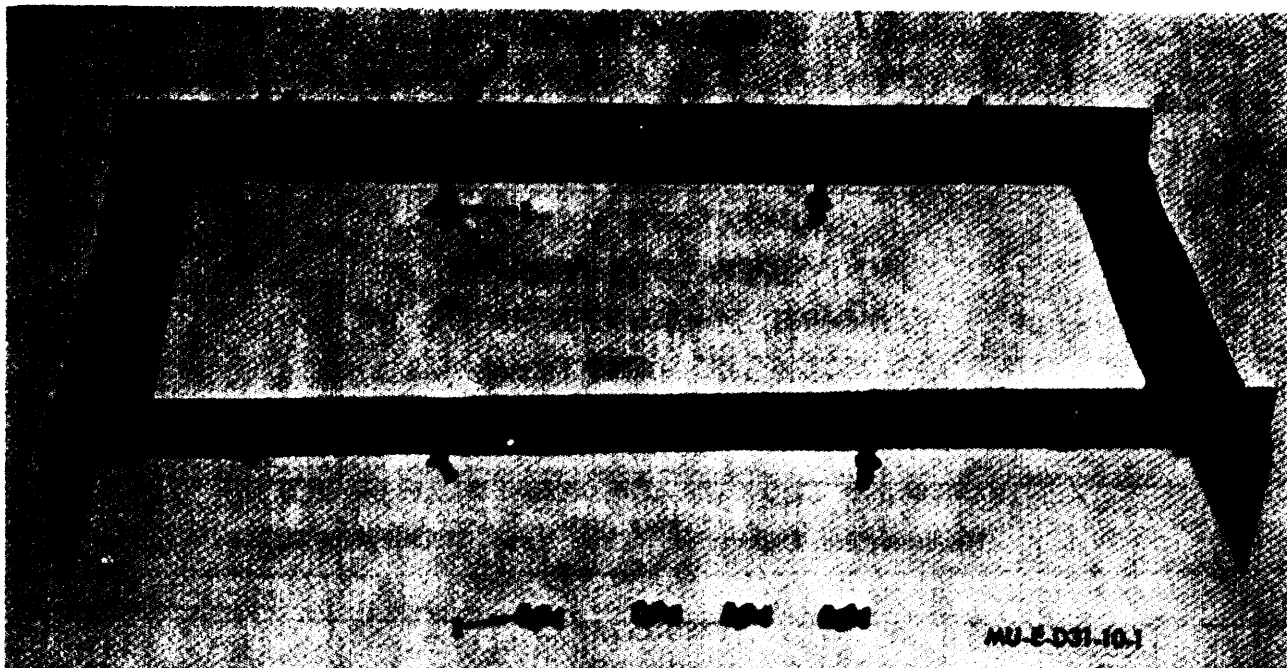
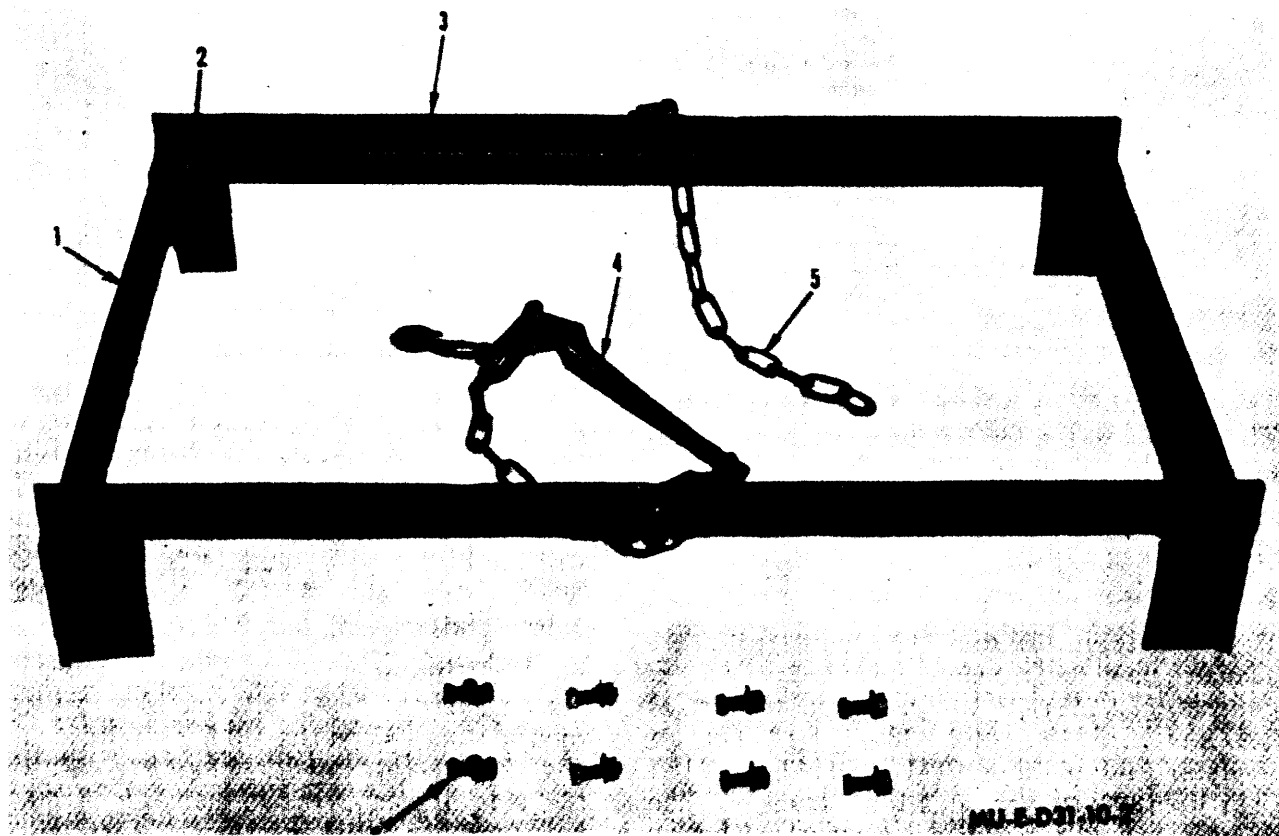
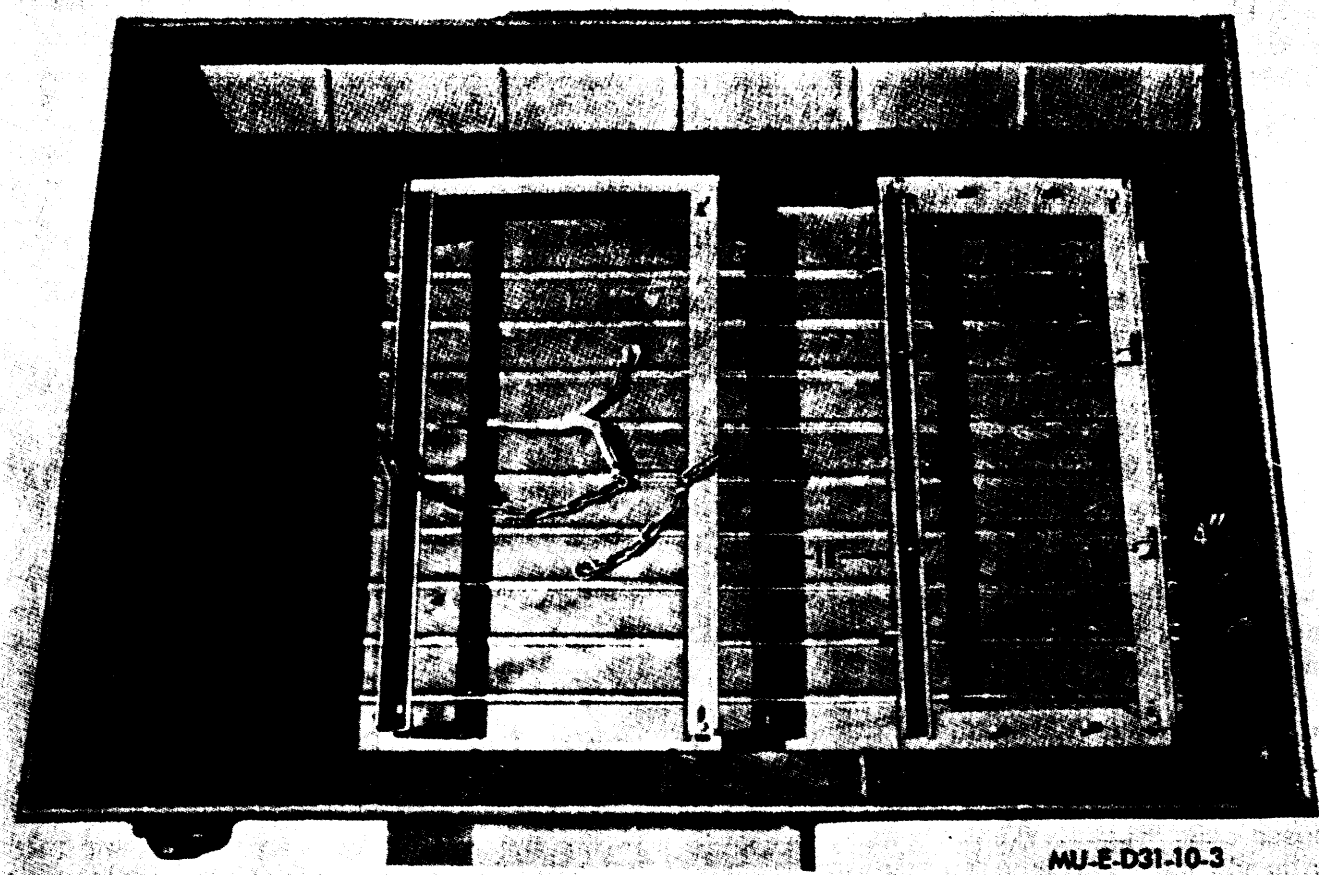

Figure 1. M2 smoke generator mount.
Figure 2. M3 fog oil drum mount.
Figure 3. M2 and M3 mounts installed in 1/4-ton trailer
a. General. The M2 smoke generator mount (fig. 1) and the M3 fog oil drum mount (fig. 2) are rectangular frames, consisting of two side angles and two end angles that are held together with capscrews. Adjustment slots in the end and side angles are used to lengthen or shorten the mounts.
b. *M2 Smoke Generator Mount.* The M2 smoke generator mount consists of a frame assembly, four hook bolts, and four spacers. The frame assembly is made up of four angles bolted together at the corners. A hook bolt assembly (5, fig. 1) consists of a bent bolt, split metal tubing welded to the inside of the hook, and attaching hardware. A spacer (2) consists of a capscrew, bushing, lockwasher, and nut. Two hook bolts are attached to each side angle (4) and secure the smoke generator to the M2 mount. Two spacers are attached to each end angle (1) and are used to help position the smoke generator on the mount. The M2 mount is approximately 37½ inches long and 17½ inches wide, and 7 inches high when not expanded.
Latest versions of the M2 smoke generator mount do not have spacers (2, fig. 1) or holes for their installation.
b. M2 Smoke Generator Mount. Four hook-bolt assemblies (5, fig. 1), two attached to each M2 mount side angle (4), secure a smoke generator to the mount. A hook-bolt assembly consists of a bent bolt that has a short length of split metal tubing welded to the inside of the hook. Four spacers (2), two installed on each M2 mount end angle, prevent a smoke generator from shifting within the mount. A spacer consists of a bushing and a 1-3/4-inch capscrew. The capscrew passes through the bushing and attaches it to the end angle. The M2 mount is approximately 37-1/2 inches long 17-1/2 inches wide, and 7 inches high when not expanded.
c. M3 Fog Oil Drum Mount. A chain (5, fig. 2) and a load binder (4) are attached to the M3 mount side angles (3). The chain and load binder stretch over the center of a fog oil drum and secure the drum to the mount. The M3 mount is approximately 37-1/2 inches long, 22-1/2 inches long, 22-1/4 inches wide, and 7 inches high when not expanded.
(1) Fasten the two end angles (1, fig. 1) and two side angles (4) together at each of the four corners with 1-1/4-inch capscrews (3), flat washers, lockwashers, and nuts.
(2) Install two spacers (2) in each end angle in the holes provided. To install a spacer, pass the capscrew downward through the bushing and the end angle, slip a lockwasher over the end of the capscrew, and secure with a nut.
(3) Install two hook bolts (5) in each side angle in the holes provided. Insert the threaded end of the hook bolt down through the hole in the side angle. Slip a flat washer and then a lockwasher over the end of the hook bolt and secure with a wingnut (6). Turn the wingnut until it passes the hole in the hook bolt. Insert a cotter pin (7) through the hole and bend both ends of the pin back around the bolt.
(1) Fasten the two end angles (1, fig. 2) and two side angles (3) together at each of the four corners with 1-1/4-inch capscrews (2), flat washers, lock-washers, and nuts.
(2) Using the connecting links, fasten the chain (5) to the center lug of one side angle. Fasten the load binder (4) and chain to the center lug on the other side angle.
(3) Close the connecting links.
a. General. The M2 and M3 mounts must be positioned in the trailer as described in *b* and *c* below, so the weight will be distributed properly (fig. 3).
(1) Position the assembled mount cross-wise on the floor of the trailer, 4 inches from the front end (fig. 3). Loosen the four cap-screws that hold the angles together. Adjust the end angles so they are snug against the sides of the trailer.
(2) On the sides of the trailer, mark the two screw-hole locations in each end angle.
(3) Remove the mount and drill 7/16-